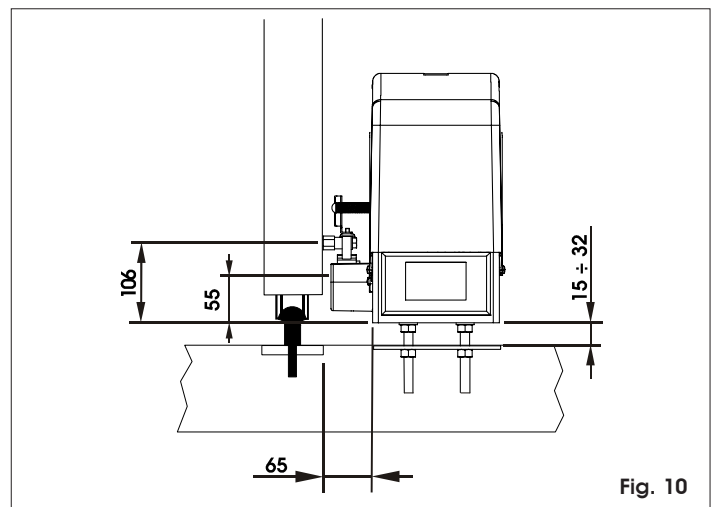

Fig. 10
- 3) Adjust the height of the feet and the distance from the gate, referring to Fig.10. NB.: this operation is necessary to ensure the rack is correctly secured and to enable any new motor height adjustments in the future.